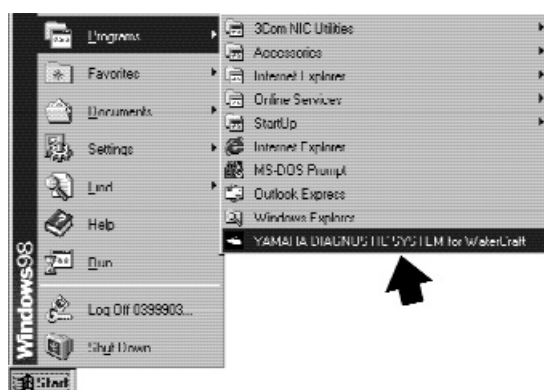

Fig. 10
2. From the taskbar at the bottom of your computer screen, click the **Start** button (fig. 10), point to **Programs**, and then click **YAMAHA DIAGNOSTIC SYSTEM for WaterCraft** to open the Yamaha Diagnostic System window. (Fig. 11)